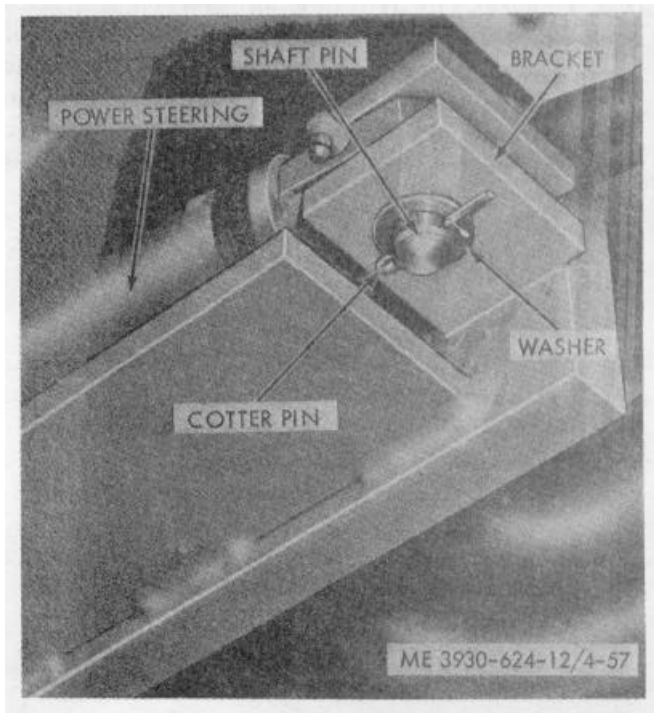

Figure 4-57. Power steering cylinder removal.
(6) Adjust and install the steering cylinder as directed in paragraph 4-59.
*a. Removal. (fig. 4-57).*
(1) Remove the inlet and outlet lines from the power steering cylinder; allowing the lines and cylinder to drain into a container of suitable size.